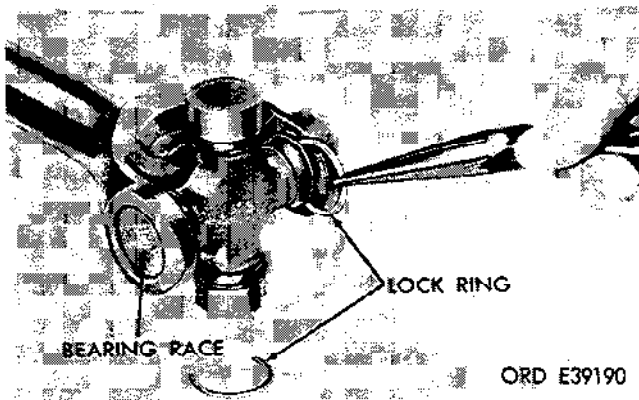

Figure 2-302. Remove ring from bearing race.
(1) Remove wheel drive shaft (para 2-132).
(2) Remove lock rings from bearing races (fig. 2-302).